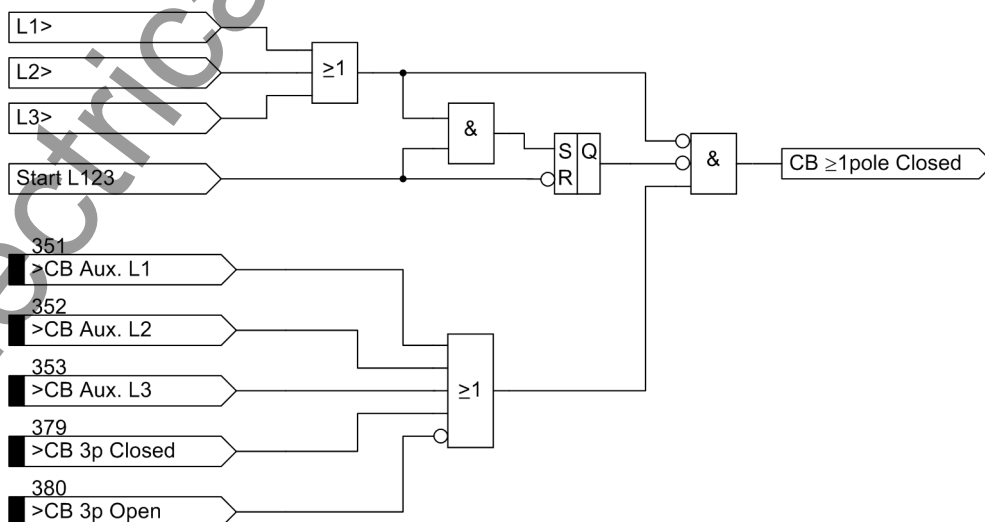

Figure 2-147 Creation of signal "CB $\geq$ any pole closed"
If the current criterion is not fulfilled for any of the phases, the position of the circuit breaker auxiliary contact(s) is queried provided that this is available according to Figure 2-147. If the circuit breaker poles have individual auxiliary contacts, the series connection of the three normally closed (NC) auxiliary contacts is used. The circuit breaker has operated correctly after a three-pole trip command only when none of the phases carries current or when all three NC auxiliary contacts have closed.